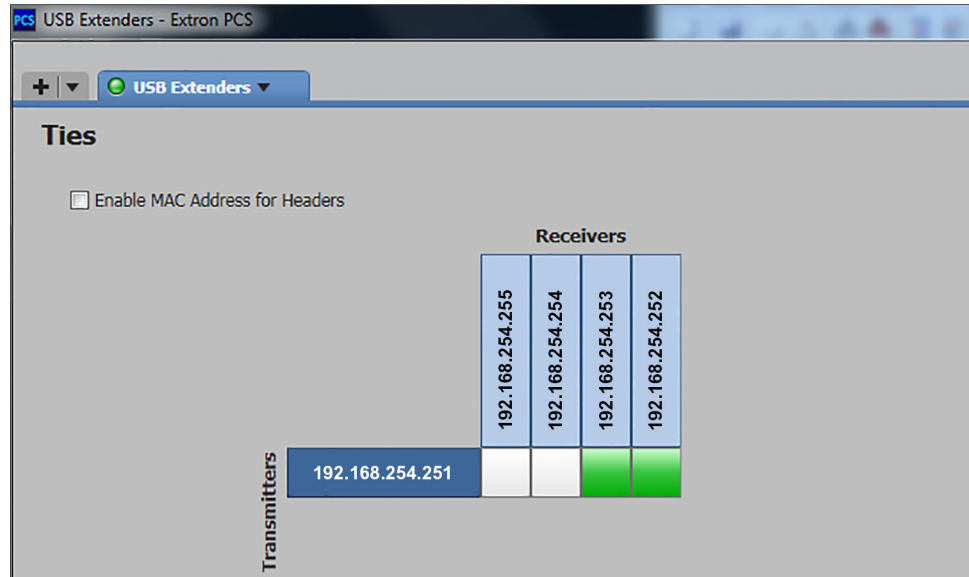

Figure 34. Tying a Transmitter to Two Receivers
2. If the box is white, click it. When the box becomes green, the transmitter and receiver are paired. Figure 34 shows a transmitter paired with two receivers.